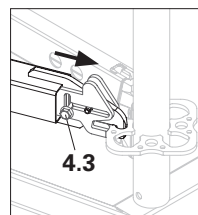

Fig. A1.11d
- Push the slider towards the rosette until the bolt (**4.3**) falls into the longitudinal groove. (Fig. A1.11d)